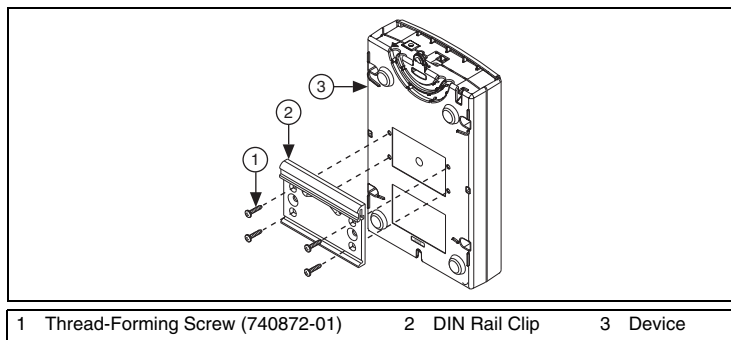

Figure 2. Attaching the DIN Rail Clip to a Device in a Vertical Orientation
1. Fasten the DIN rail clip to the device using a #1 Phillips screwdriver and four thread-forming screws (part number 740872-01), included in the DIN rail mounting kit. Tighten the screws to a torque of $0.76 \text{ N} \cdot \text{m}$ ($6.7 \text{ lb} \cdot \text{in.}$). Figure 2 shows a DIN rail clip being attached to the device.